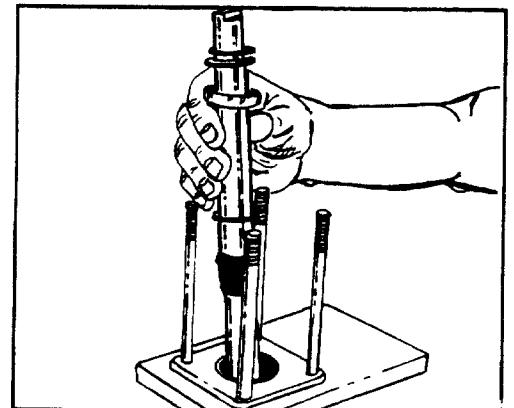

FIGURE 36.
44. Remove the input shaft/wheel tube (33) assembly, sliding it out of the upper cover end of the assembly. See figure 36.